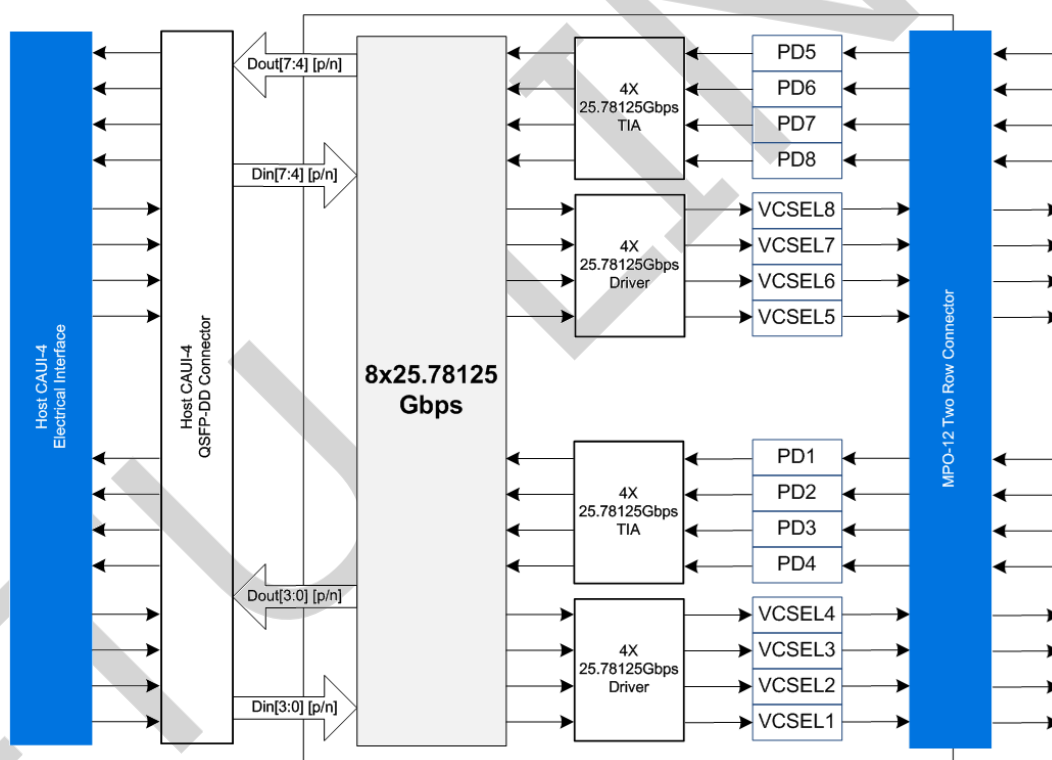

Figure 1: Transceiver Block Diagram
As shown in Figure 1, the transmitter part of the transceiver contains an 8x25.78125Gbps CAUI-4 electrical input and equalization (EQ) block, two 4-channel laser drivers and a multi-mode laser source.
As shown in Figure 1, the receiver part of the transceiver contains eight PIN photodiodes, two 4-channel trans-